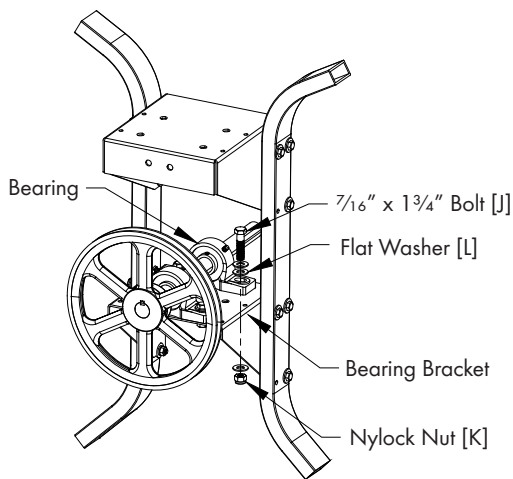

Figure 10
Install Bearing Assembly, removed in Step 4, to Bearing Bracket (lower base) using (4)  $\frac{7}{16}$ " x  $1\frac{3}{4}$ " Bolts [J], (12) Flat Washers [L] and (4) Nylock Nuts [K]. DO NOT tighten bolts at this time. To allow for proper alignment of bearings, loosen set screws on bearing closest to pulley and move as needed. *See Figure 10.*